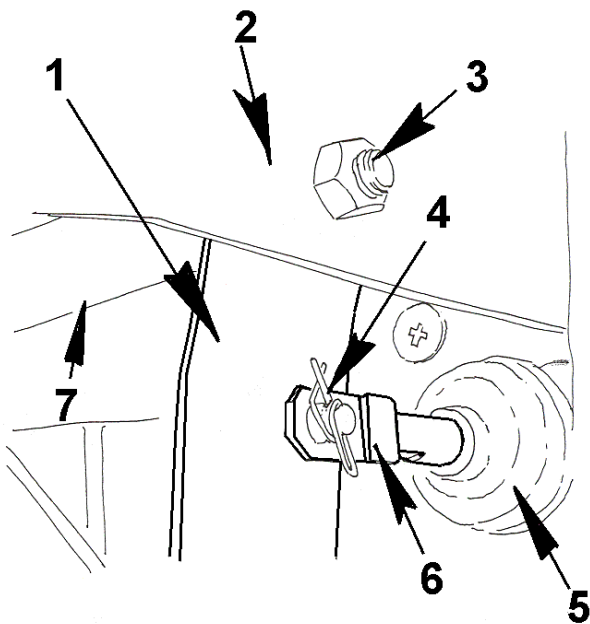

Figure 106 Break Pedal Assembly Install
4. Insert mounting bolt through bushings and pivot bar (Figure 106, Item 3).
6. Locate, align and install brake rod clevis to brake pedal arm (Figure 106, Item 6).
7. Install retainer pin and clip (Figure 106, Item 4).